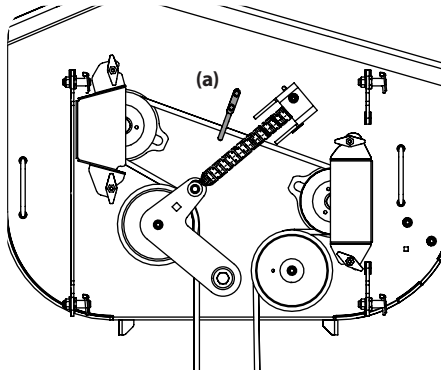
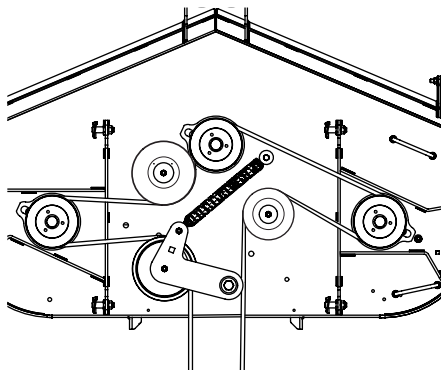

Figure 4-15
Figure 4-16
6. Route the new belt as shown in Figure 4-15 for 36" decks and Figure 4-16 for 48" and 54" decks. Then reinstall the deck.